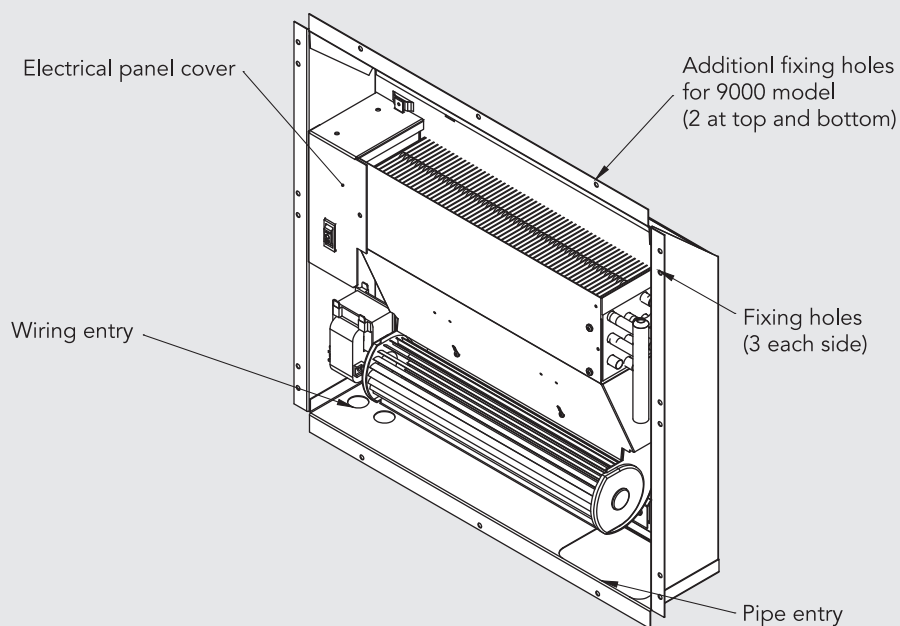

Fig.2
- The WHISPA III® wall units are designed so that the piping and wiring connections are made within the cabinet of the unit itself. The installer should inspect the unit and note that the 1/2" piping should enter on the lower right hand corner of the unit and the 110V AC wiring for the unit enters on the lower left hand corner of the unit, see Fig 2.
- Depending on the wall construction, the installer will need to decide whether it would be best to fit the unit first and then bring in the piping, or to bring the piping in first. Once this decision has been made, place the unit in position (fan at bottom) and secure to the framing with suitable screws. Use all the fixing holes, see Fig 2.
- Bleed the coil of air using the vent screw provided, see Fig 2. Close the vent and check for leaks. With the leak check complete, the electrical circuit to the unit may be energized.